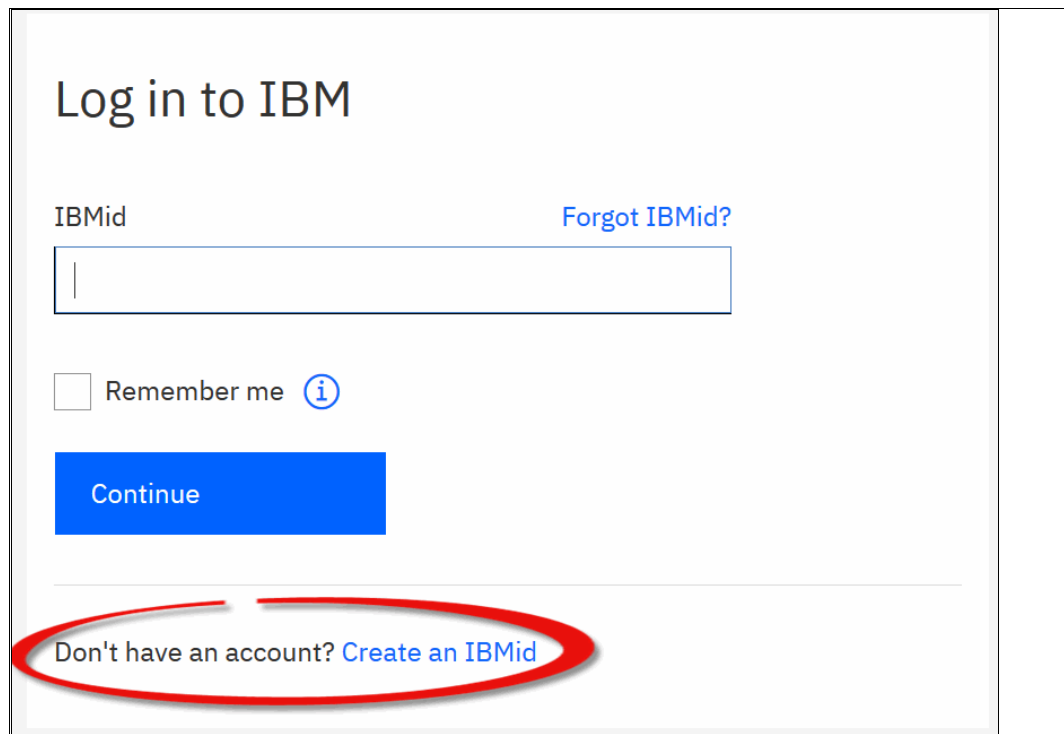

Figure 9-24 Registration login window
2. Figure 9-24 shows the Log-in window in the registration process. If you have your credentials, enter your IBMid and proceed to the next window by clicking **Continue**. If you do not have an IBMid, click **Create an IBMid**.